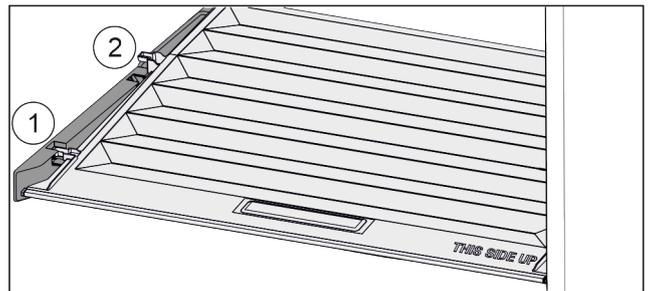

Fig. 58
- ▶ Pull the lid up at the front in the retaining parts to the opening Fig. 58 (1).
- ▶ Lift from the back and pull it up and out Fig. 58 (2).